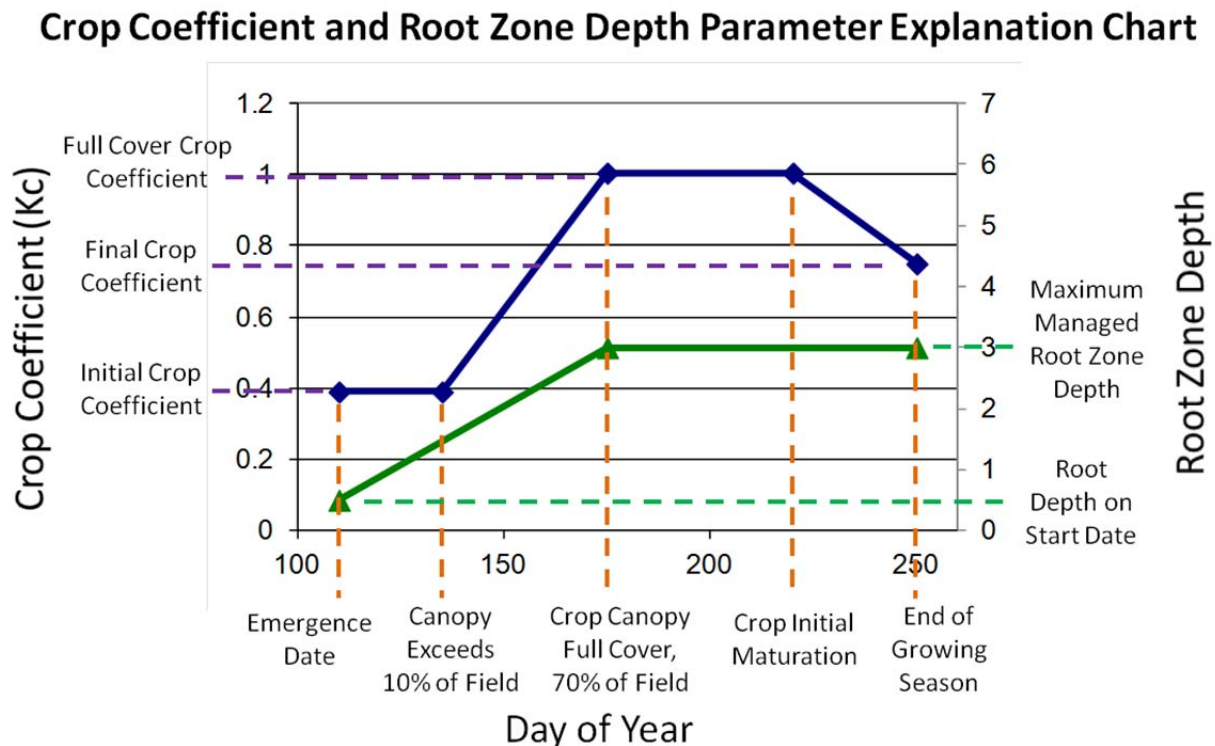

Figure 19. How crop coefficients and root growth are defined by the parameters in Field Settings.
**Planting/Emergence Date:** Date the plant that the crop emerges and/or the plant starts using water. This is the start date for the soil water budget model. (See Figure 19.)
**Crop Canopy Cover Exceeds 10% of Field:** The date that crop water use starts increasing. (See Figure 19.)
**Crop Canopy Exceeds 70% of Field (Full Cover) Date:** The date that the crop canopy exceeds 70% - 80% of the field area or shades 70% - 80% of the ground area. At this point the crop coefficient reaches a maximum and stays at this maximum until the Initial Maturation Date (below). (See Figure 19.)
**Crop Initial Maturation Date:** After this date the crop begins to dry up, senesce or otherwise shut down and water use begins to decrease. (See Figure 19.)
**End of Growing Season Date:** Water use stops on this date. Often this coincides with harvest, or the first killing frost. This is the last date of the model. (See Figure 19.)
**Root Depth on Start Date:** The effects of a growing root depth is included in the soil water budget model. This is the root depth in inches on the starting or plant emergence date. (See Figure 19.)
**Maximum Managed Root Zone Depth:** This is the maximum root depth reached in the season. It is assumed that the plant root reaches this depth on the Crop Canopy Full Cover Date. (See Figure 19.)
**Initial Crop Coefficient:** The crop coefficient (Kc) from emergence to the 10% Cover date. (See Figure 19.) This Kc is based on alfalfa reference ETr.
**Full Cover Crop Coefficient:** The crop coefficient (Kc) at full cover. This is the peak, or maximum crop coefficient. (See Figure 19.) This Kc is based on alfalfa reference ETr.
**Final Crop Coefficient:** Crop coefficient (Kc) at the end of the season. (See Figure 19.) This Kc is based on alfalfa reference ETr.